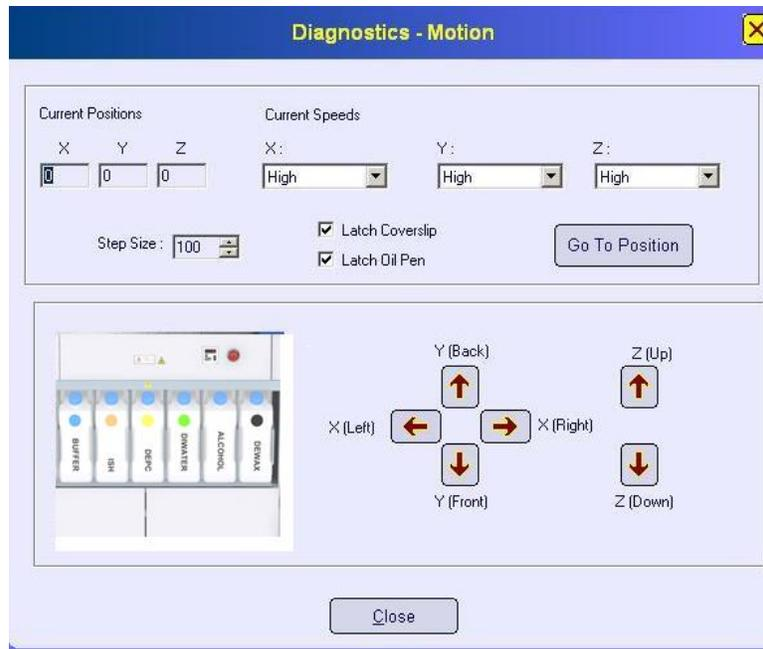

Fig. 76: <Diagnostics – Motion> window
- iii. From **<Xmatrx-System Configuration & Calibration>** select **<Test>**. Click on **<Diagnostics>** from the drop-down menu to open **<Diagnostics – Motion>** window (Fig. 76). In the **<Diagnostics – Motion>** window, use the X/Y arrows to bring the Z-Head to the correct position directly above the drain hole of the instrument.